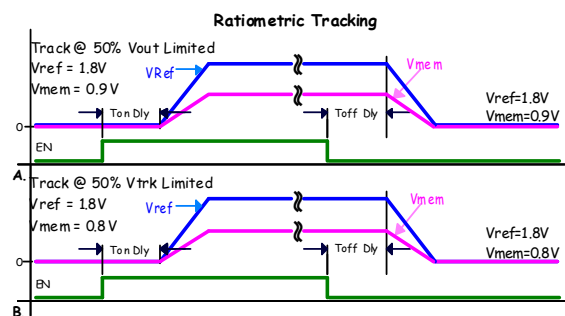

FIGURE 16. RATIOMETRIC TRACKING
- Track at 50% VOUT limited. Member rail tracks the reference rail and stops when the member reaches 50% of the target voltage, Figure 16\(A\).
- Track at 50% VTRK limited. Member rail tracks the reference at the instantaneous voltage value applied to the VTRK pin until the member rail reaches 50% of the reference rail voltage, or if the member is configured to less than 50% of the reference the member will achieve its configured target, Figure 16\(B\).